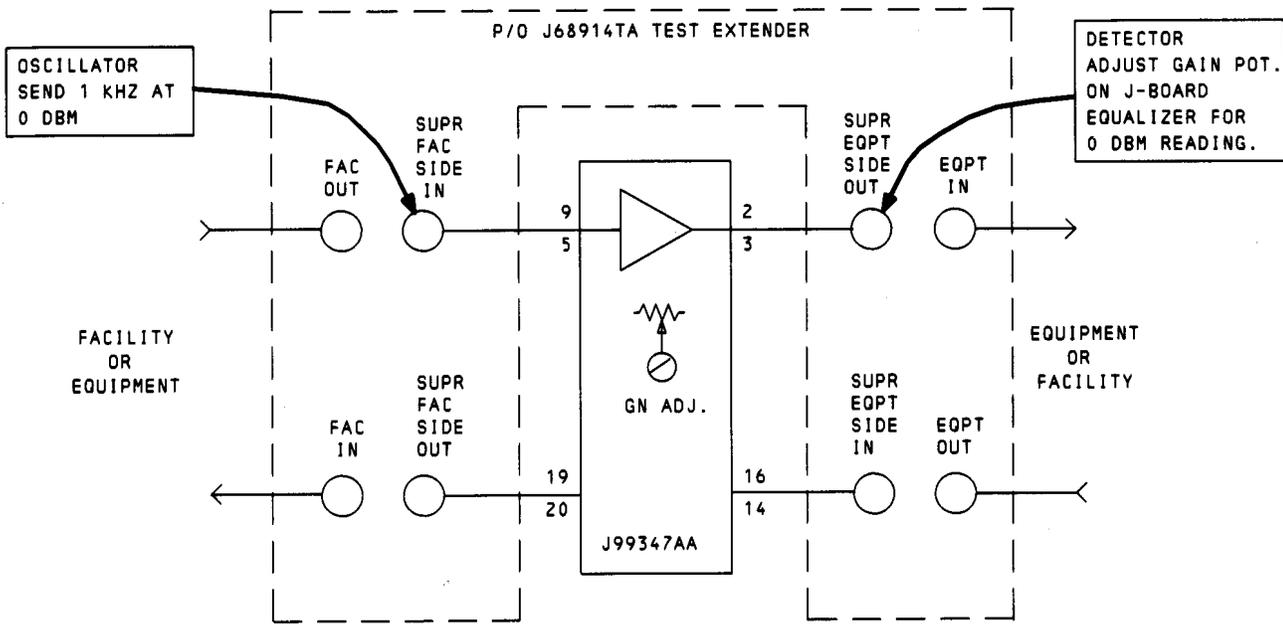

Fig. 2—Gain Adjustment Connections for J99347B Bay or Logic Position of 4A Echo Suppressor
A. J99347B-L1 Bay (or logic position of 4A Echo Suppressor shelf or bay)—Using J68914TA Test Extender—Fig. 2